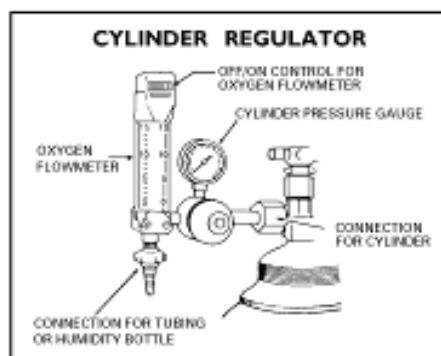

Figure 3-10. Cylinder with regulator
- b. Cylinder with regulator/flowmeter. Refer to Figure 3-10.